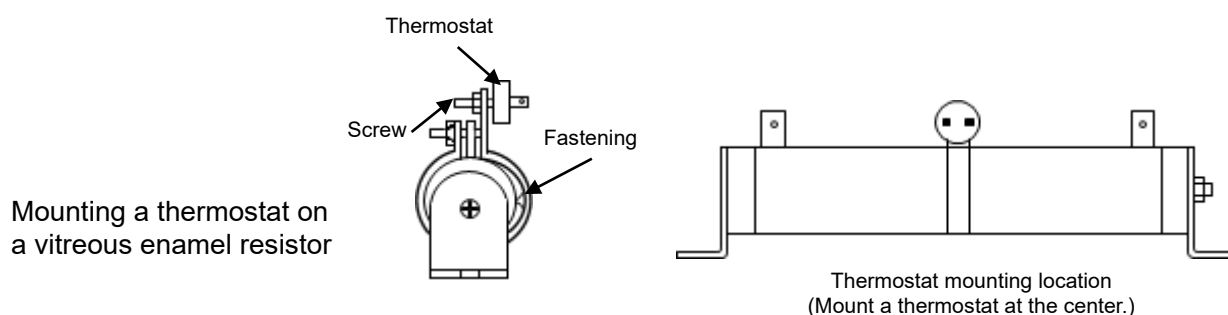

Figure 2-6 Thermostat mounting location
- (1) Use the regenerative resistor supplied as an option, unless otherwise specified.
- (2) The regenerative resistor is used to consume excessive energy that the capacitor in the device cannot absorb, among regenerative energy generated by motor braking when load inertia (GD^2) is large.
- (3) Since heat is generated by regenerative energy, locate the regenerative resistor not to influence other equipment.
- (4) A thermostat is supplied with the optional regenerative resistor. The contact of the thermostat operates (is opened) when the regenerative resistor gets overheated. Carry out wiring so that the main power supply is shut down when the contact operates. In the contact specifications of the thermostat, the contact current is 15 A at 100 VAC or 10 A at 200 VAC. When mounting the thermostat, refer to Figure 2-6.
- (5) The cable length between the regenerative resistor and device shall be up to 3 m or as short as possible. As the cable is longer, surge voltage generated by power element switching becomes higher, and the device could be damaged.